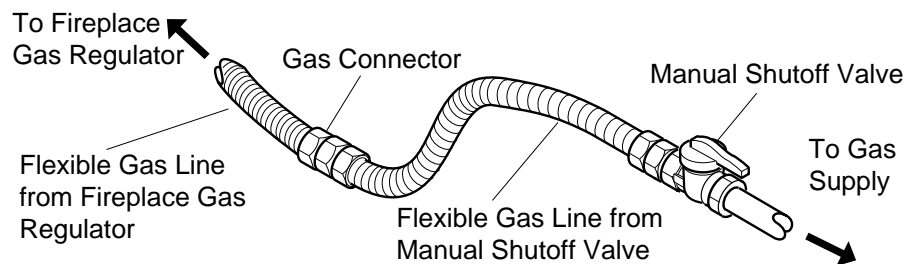

Figure 18 - Attaching Flexible Gas Lines Together
4. Apply pipe joint sealant lightly to male threads of gas connector attached to flexible gas line (see Figure 18). Connect flexible gas line to flexible gas line attached to gas regulator of fireplace (see Figure 18).